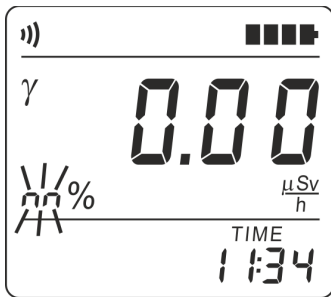

Figure 2.4 – LCD of the radiometer (measurement restart)
2.3.3.6.21 If THRESHOLD button is released when CLr symbols are displayed on the LCD, then the measurement process becomes restarted (Figure 2.4).